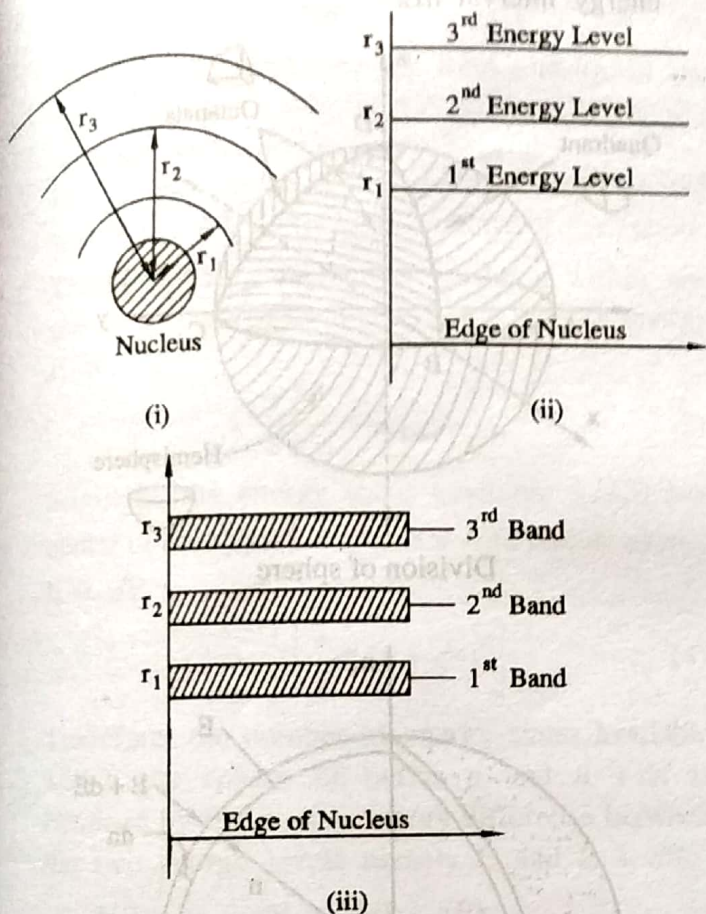

FIG. 1.13 : ENERGY BAND
- Since, there are millions of first orbit electrons, the slightly different energy levels form a band, called 1st energy band (see Fig. 1.13).